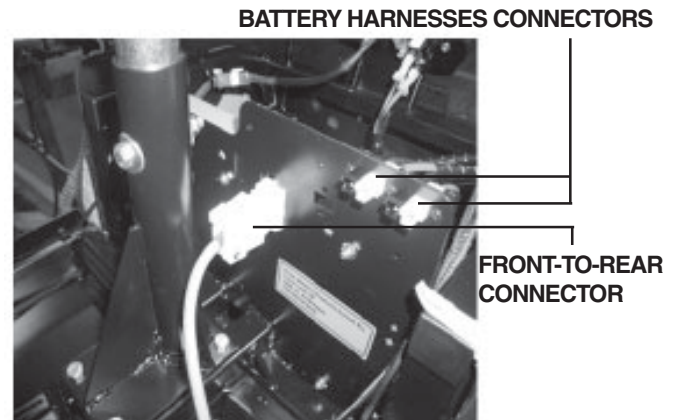

Figure 19. Front-To-Rear Cable
5. Unplug the large, white, 9-pin front-to-rear connector. See figure 19.
6. Unplug both battery harnesses from the battery harness connectors. See figure 19.